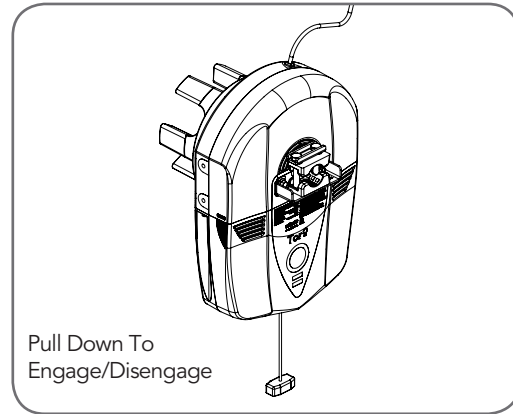

fig 14
- Move the door to half way open. If necessary, disengage the opener by pulling the cord down (**Fig.14**). Re-engage the opener by pulling the cord down again.